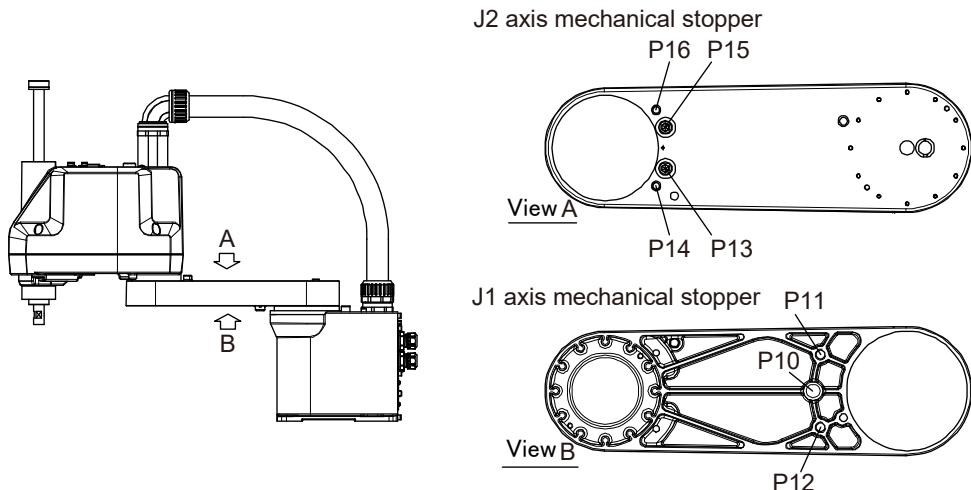

Fig.3-1 : Mechanical stopper position
Note 1) Refer to Fig. 3-1 for the mechanical stopper position.
2) Refer to Table 3-1 and Fig. 3-1, and install the stoppers in the screw holes at the angles to be set. Fig. 3-1 shows the mechanical stopper positions. When the screw holes are hidden under the arm, slowly move the No.1 arm by hand.